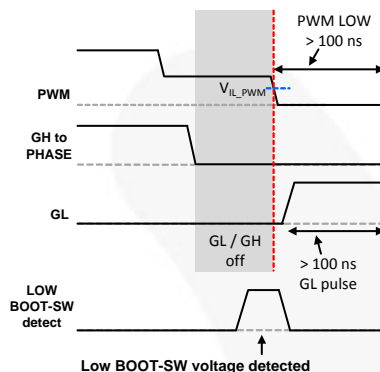
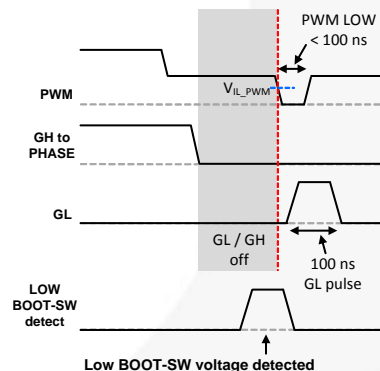

Figure 33. Low BOOT-SW Voltage Detected and PWM from 3-State to LOW for more than 100 ns
Figure 34. Low BOOT-SW voltage Detected and PWM from 3-State to LOW for Less than 100 ns
- If the part exits 3-state with a low BOOT-SW voltage condition and the controller commands PWM=LOW for 100 ns or more, the SPS follows the PWM input. If PWM=LOW for less than 100 ns, GL remains on for 100 ns then follows the PWM input (see Figure 33 and Figure 34).